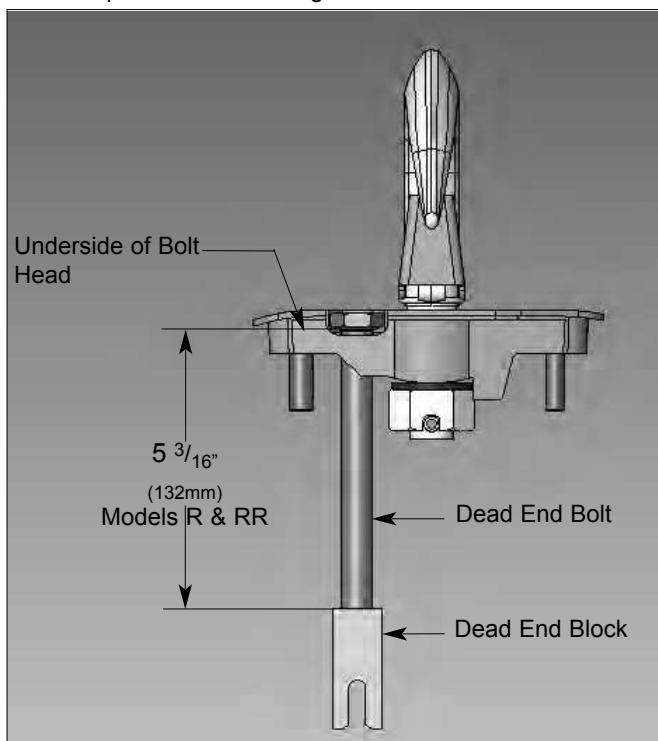

Figure 21. Swivel Hook Suspension
Assemble the dead end bolt and block through the suspension adapter as shown in Figure 21.
1. Use a grinder and nick the link on both sides (Figure 21), then secure the link in a vise and break off with a hammer.